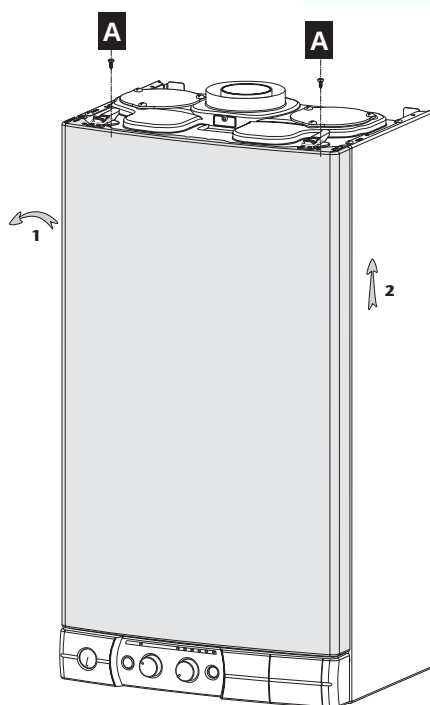

Fig. 7
- unscrew the two clamp locking bolts **A**, which secure the front panel (fig. 7)